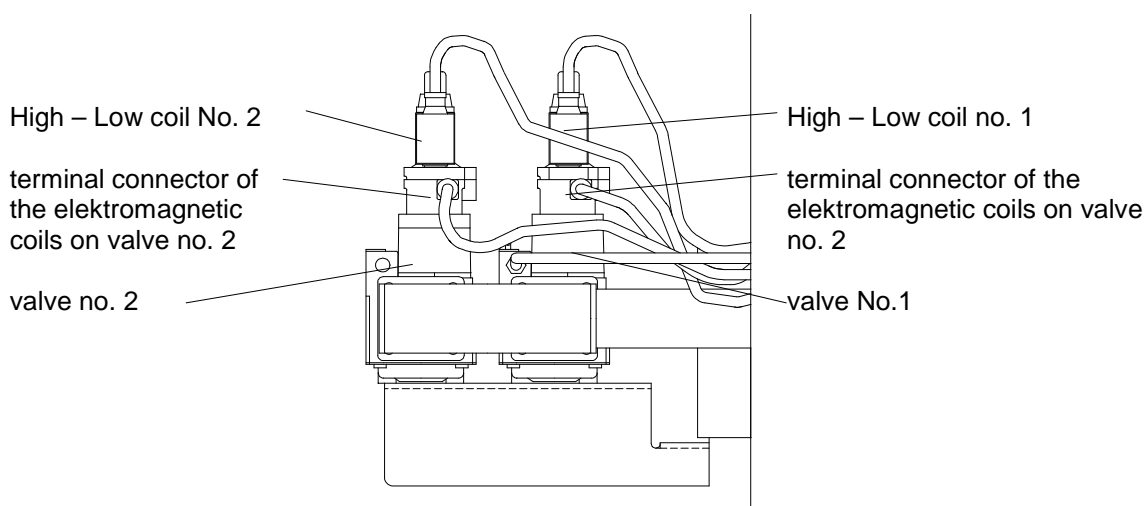

Fig. no. 14 Honeywell gas valves connection
4. Connect the manometer (U-tube) to the measuring point of the output gas pressure on the valve No.1 (see fig. no. 14)